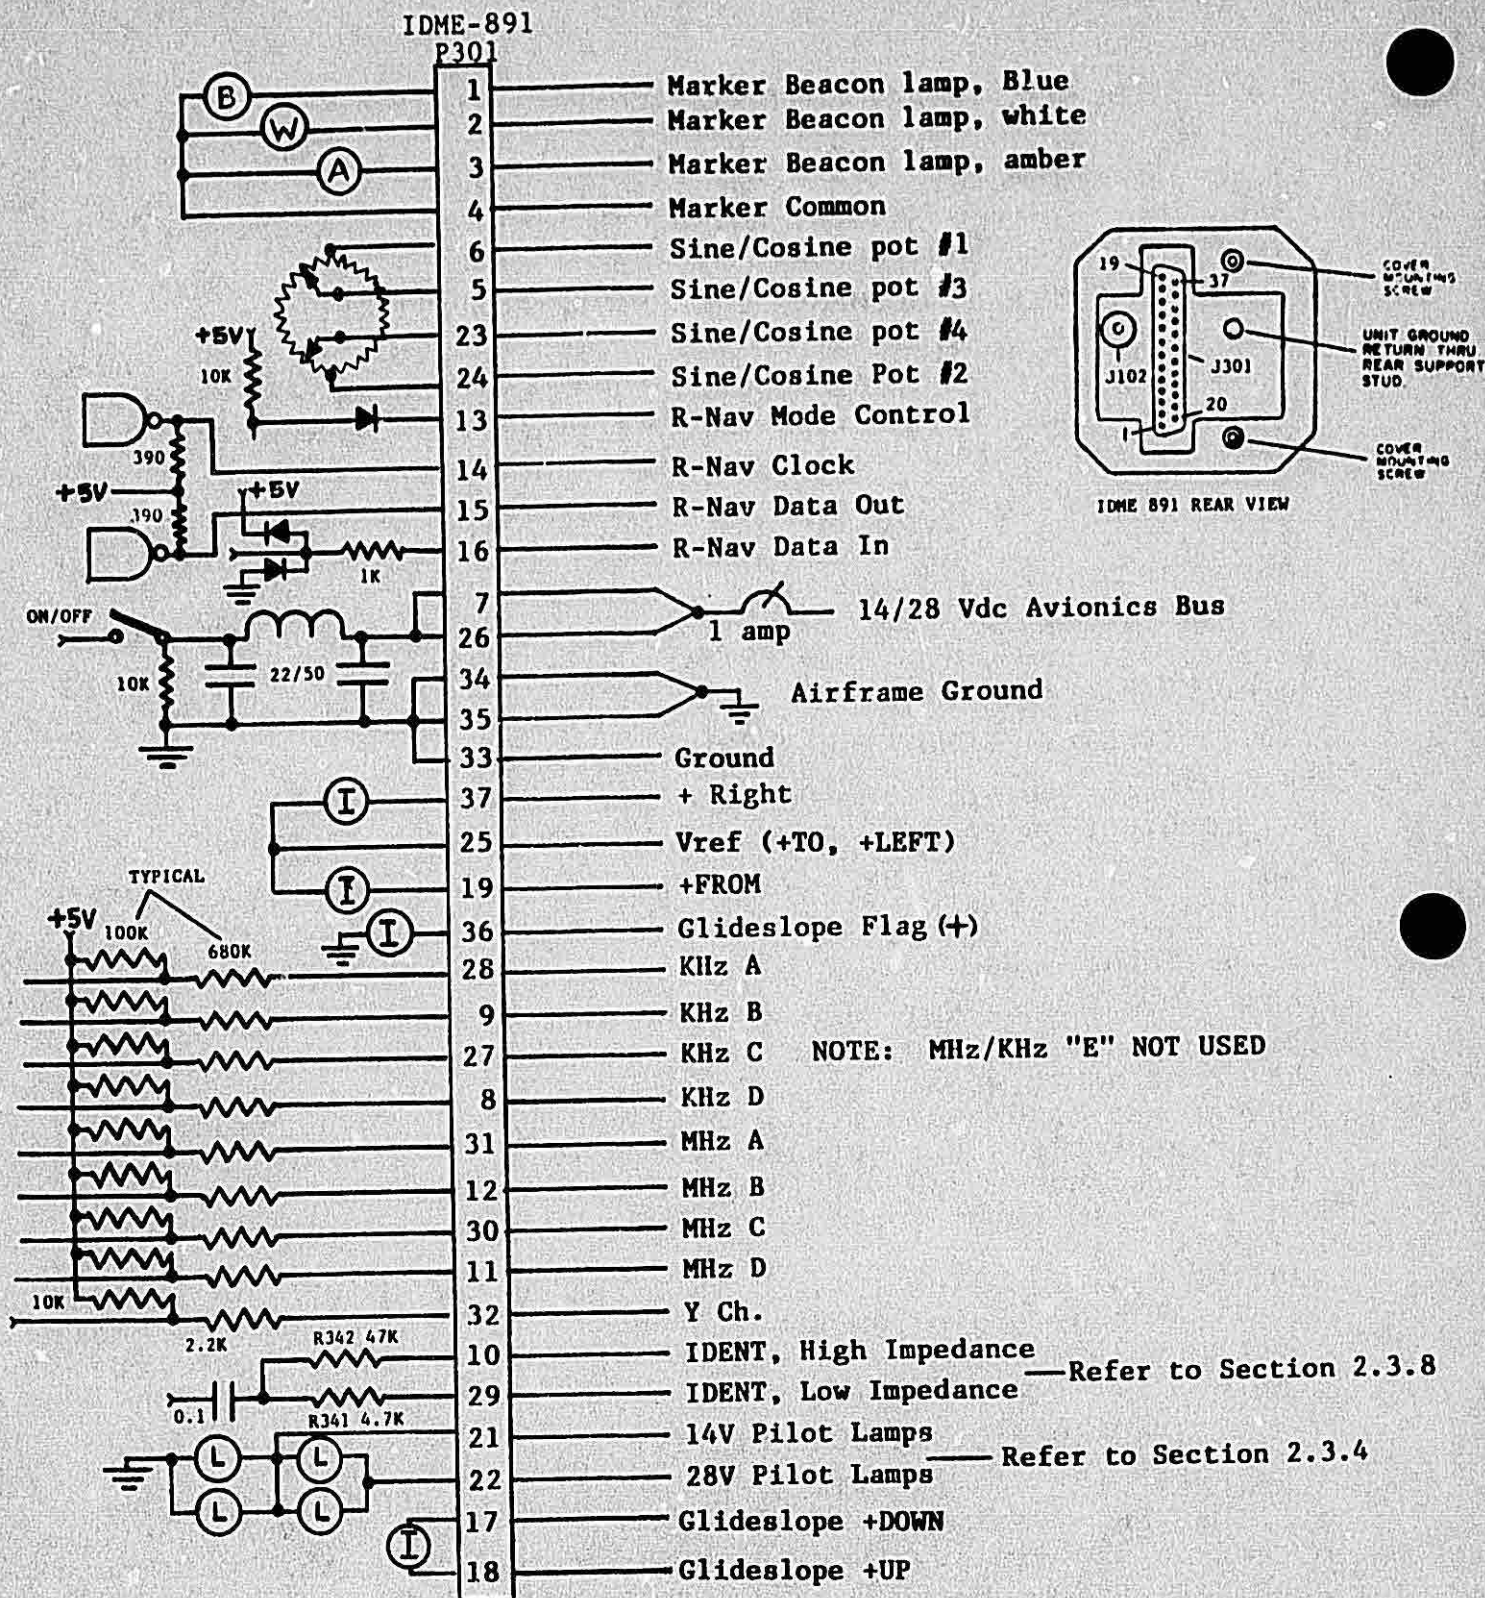
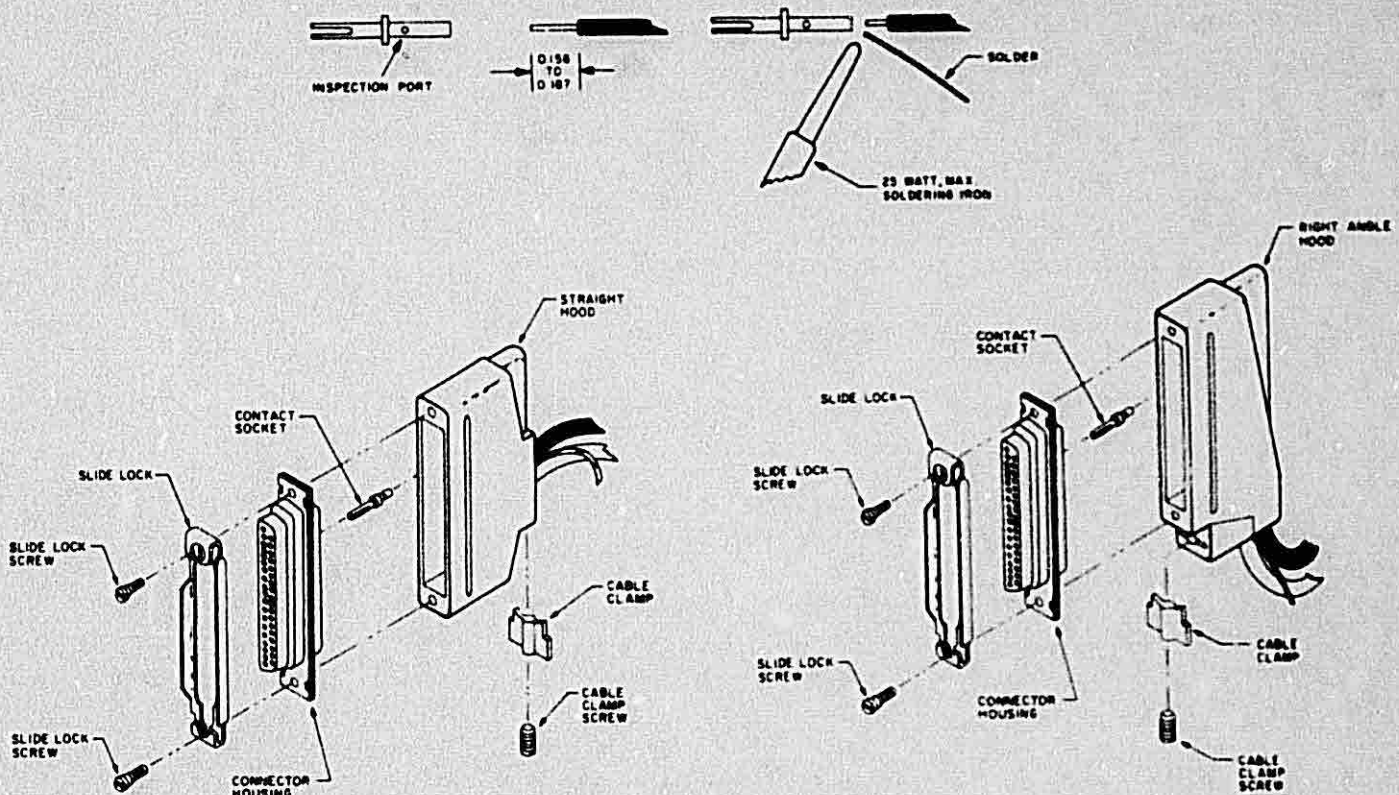

FIGURE 2-2 IDME-891 REAR CONNECTOR P301 CONNECTIONS
FIGURE 2-3 P301 ASSEMBLY
The following subsections present the necessary technical information in order to plan an electrical installation. Refer to Figure 2-2, the external interconnect diagram.
J301-29 (low impedance: 4.7K) is intended for the CP-136 audio panel. Either audio level may be shifted, if required, by changing the value of R341 (4.7K low Z) or R342 (47K Hi Z). Refer to Figures 2-2, 2-2A, 2-2B.
Figure 2-2 lists the connections to P301. P301 is assembled as shown in Figure 2-3. While constructing the cable, be sure to pass wires through the hood before inserting pins into the connector.
1. Strip wire as shown in Figure 2-3. Maximum wire size is No. 20AWG.